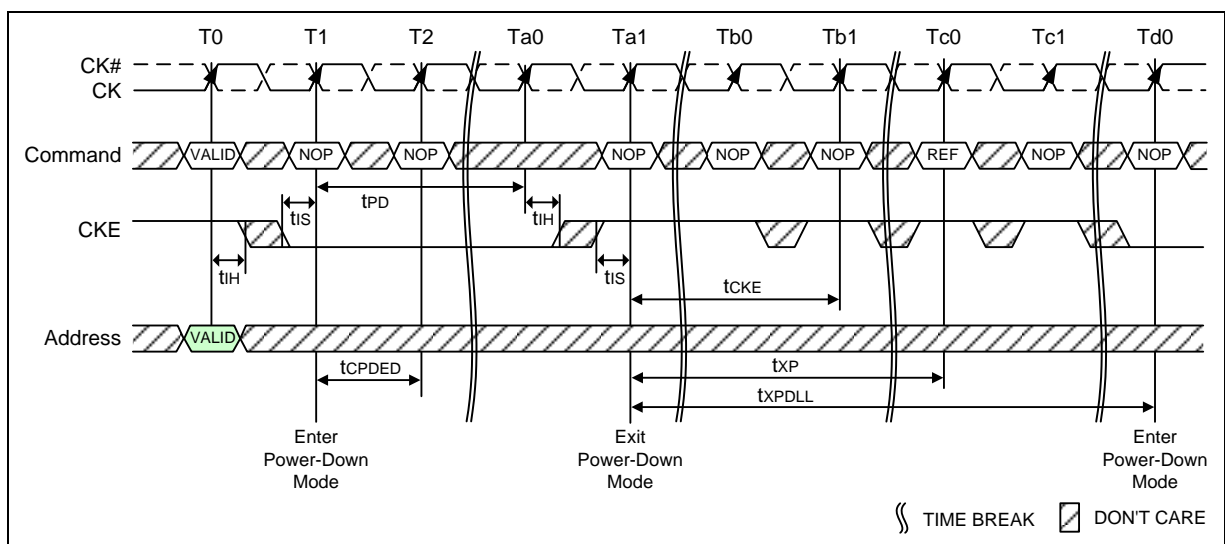

Figure 70 – Power-Down Entry/Exit Clarifications - Case 2
2)  $t_{XPDLL}$  must be satisfied (referenced to the registration of PD Exit) before the next power-down can be entered. A detailed example of Case 2 is shown in Figure 70.